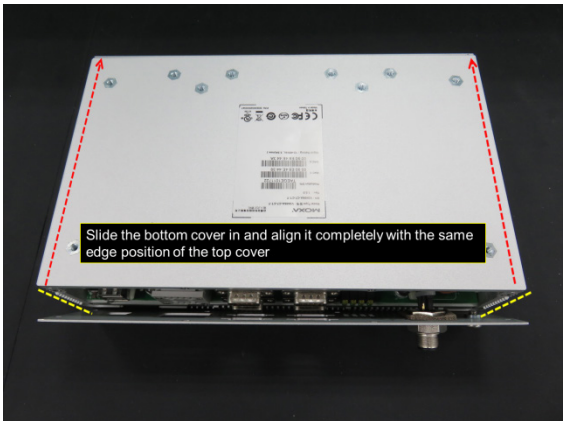

Figure 29
- 4.4.2 Align the bottom cover with the position of top cover as shown in Figure 29.